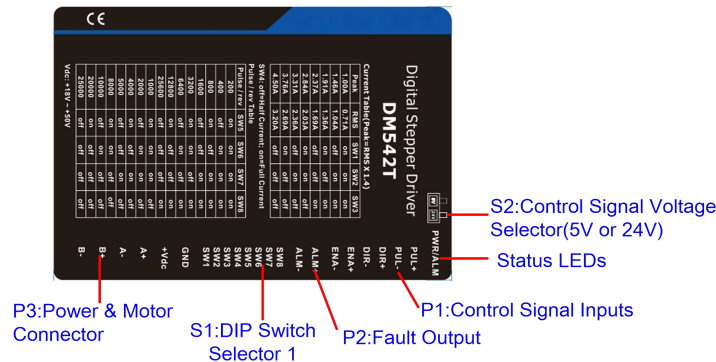

Figure 2 Connectors, DIP switches, and LED locations
PUL+	Pulse and Direction Connection: (1) Optically isolated, high level 4.5-5V or 24V, low voltage 0-0.5V (2) Maximum 200 KHz input frequency (3) The width of PUL signal is at least 2.5μs, duty cycle is recommended 50% (4) DIR signal requires advance PUL signal minimum 5 μs in single pulse mode (5) The factory setting of control signal voltage is 24V, must need to set S2 (figure 2) if it is 5V
The DM542T(V4.0) can accept differential or single-ended control signals (pulse, direction, and enable) in open-collector or PNP connection through the P1 connector (figure 2). It is recommend to add an EMI line filter between the power supply and the drive to increase noise immunity for the drive in interference environments.
- (1) ENA signal is no-connected as default;
- (2) Control signal amplitude is 24 V as default. If it is 12 V, please set the S2 (Figure 2) selector switch to 5 V first, then connect 1KΩ resistor; If it is 5V, please set the S2 to 5V.
The second 1-bit selector is located on the top (S2 in figure 2), used to configure the voltage of control signals. For the safety of optically coupled, the factory setting is 24V, which no need to connect 2K resistors like the old drives, making it easier to use. When the voltage of the control signal is 5V, the S2 must be set to 5V, otherwise, the motor won't work.